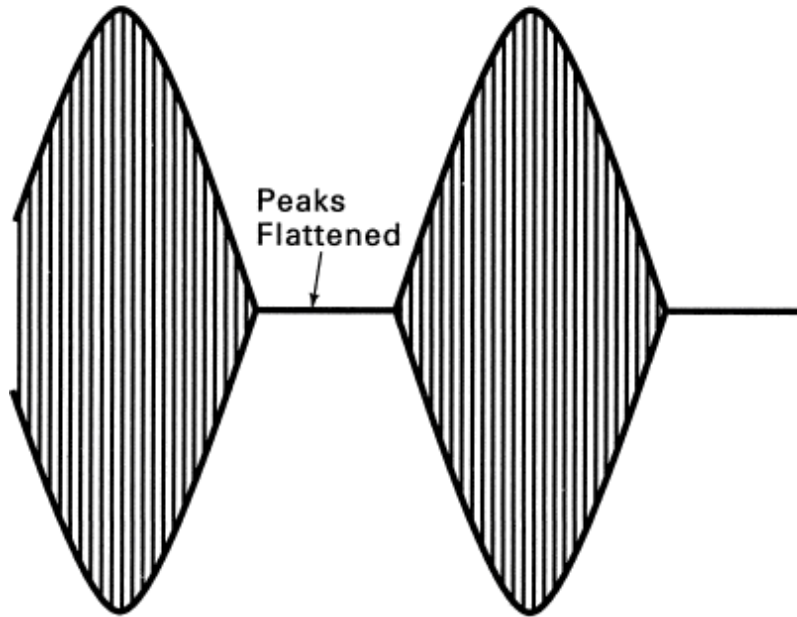

Fig. 3-3 Overmodulation-caused distortion.
The most important criterion is to attempt to achieve 100 percent modulation but not exceed it. If the modulating-signal amplitude is greater than the carrier amplitude, overmodulation will occur and the information signal will be distorted. Note how the peaks in Fig. 3-3 are clipped.
6. Adjust the modulating signal amplitude for maximum value just prior to the occurrence of distortion. If clipping like that shown in Fig. 3-3 occurs, reduce the input signal amplitude until the distortion just disappears. Measure and record V_{max} and V_{min} .